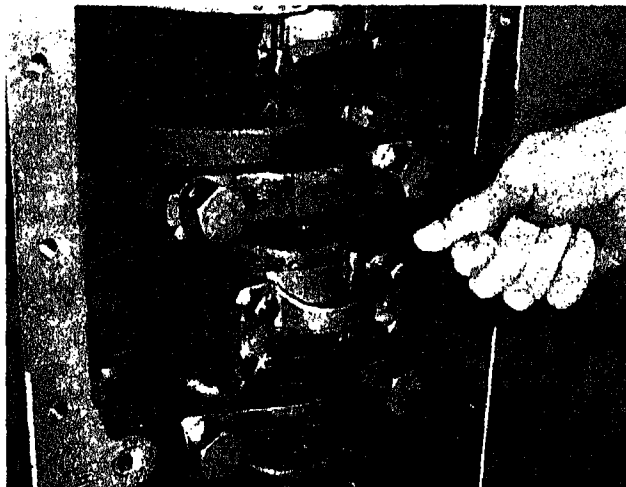

Fig. 14-1-19. Checking rod-to-crankshaft side clearance
22. Tightened rod should be free to move sideways on crankshaft journal. Check with hand pressure first; tap lightly with soft hammer only if necessary. Check side clearance (between crankshaft journal and side of connecting rod), Fig. 14-1-19; a minimum of 0.008 in. [0.2032 mm] clearance should be present in this area.